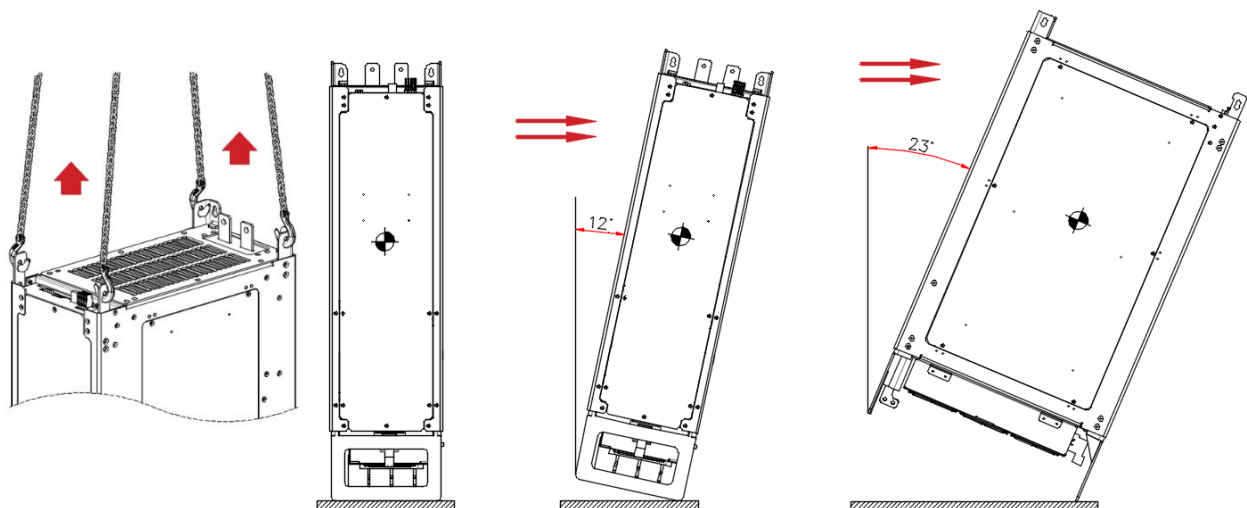

Fig. 1-1: How to lift and move SDx3 frame
- Moving a SECOM DRIVE with frame type SDx.3: lift the drive using eyebolts or lifting eyelets as shown in Fig. 1-1. Do not manually tilt the drive, doing so may result in severe injury from the drive toppling over.